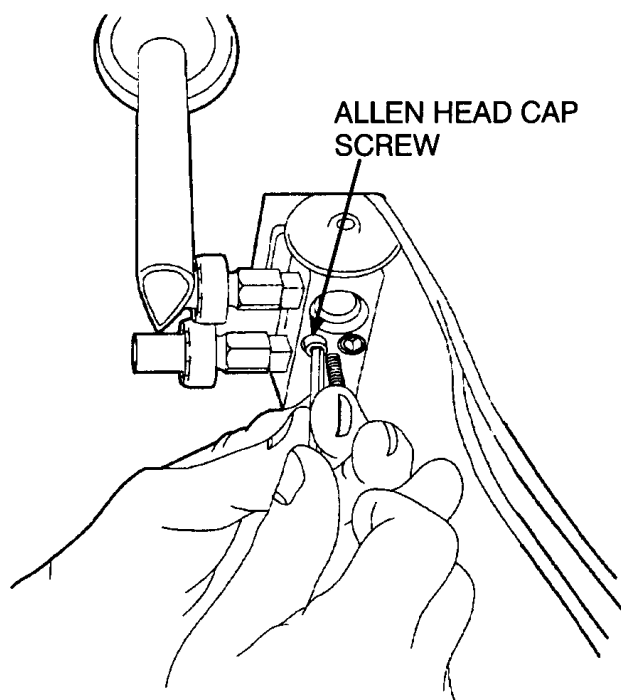

Figure 8 Expansion Valve Mounting
7. Remove two 5/32 inch Allen head capscrews that secure the expansion valve to the evaporator (Figure 8) and remove the expansion valve.
2. Install expansion valve on the evaporator tubes with the stud facing out and secure in place with the two 5/32 inch Allen head capscrews removed previously (Figure 8). Tighten the capscrews to 79 to 89 lbf-in (8.9 to 10 Nm).